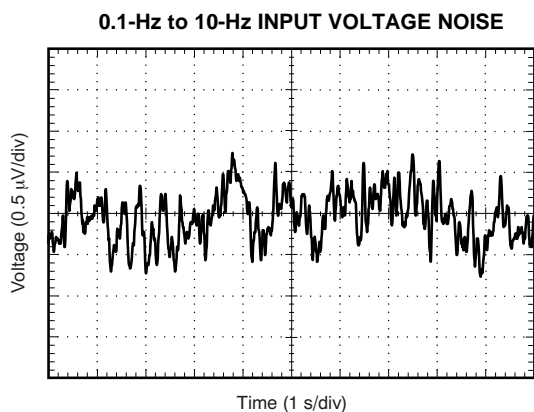

Figure 11.
0.1-Hz to 10-Hz Input Voltage Noise (5.5 V)	<a href="#">Figure 11</a>